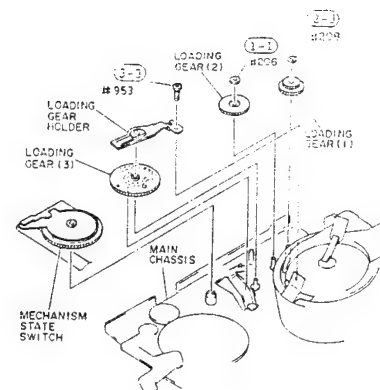
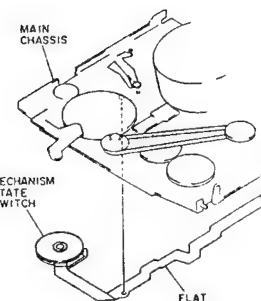

Fig. 2-66
Fig. 2-67
- 1) Remove one (1) washer holding the loading gear (2). (See Fig. 2-66)
- 2) Pull out loading gear (2) from the main chassis.
(2) Loading Gear (1)
- 3) Remove one (1) washer holding the loading gear (1). (See Fig. 2-66)
- 4) Pull out loading gear (1) from the main chassis.
- 3) Remove one (1) screw holding the loading gear holder. (See Fig. 2-66)
- 4) Pull out loading gear (3) and mechanism state switch from the main chassis.
- 5) Peel out the flat cable of the mechanism state switch from the main chassis. (See Fig. 2-67)